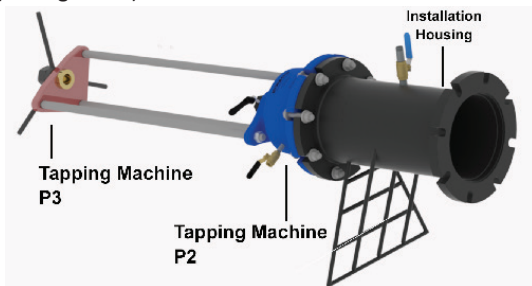

Figure 26
3.0.4) Tip and lay the insertion housing and Hydra-Tapper assembly on its stand (see Figure 26).